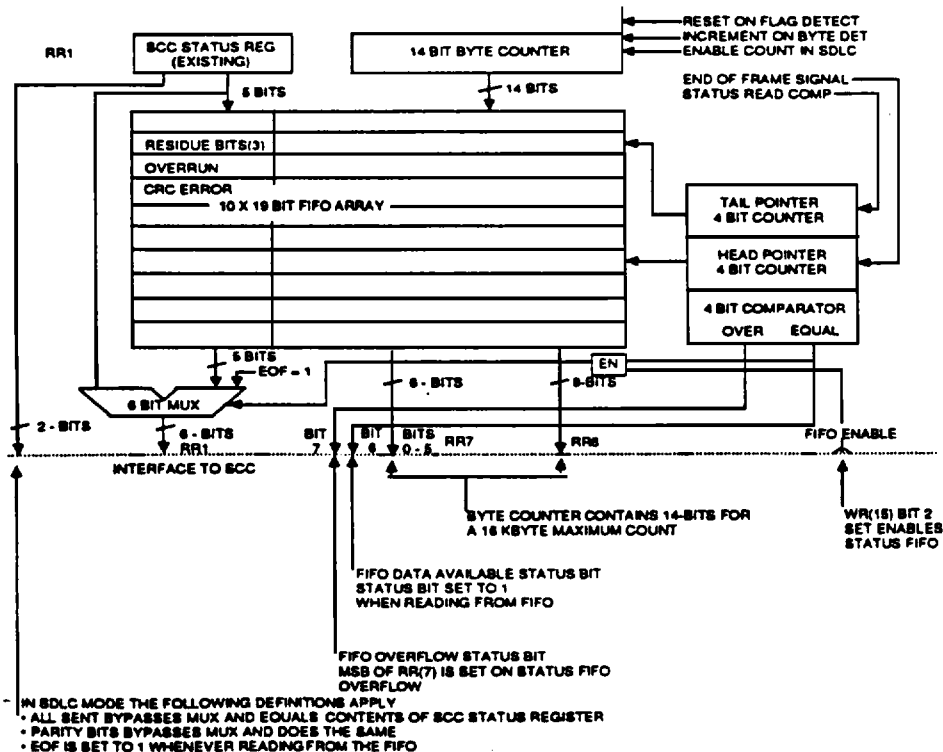

Figure 18. SCC Status Register Modifications.
Additional logic was added to the industry standard NMOS SCC consisting of a 10 deep by 19 bit status FIFO, 14-bit receive byte counter, and control logic as shown in Figure 18. The 10 x 19 bit status FIFO separate from the existing three byte receive data FIFO.
**FIFO Detail.** For a better understanding of details of the FIFO operation, refer to the block diagram contained in Figure 18.
**Byte Counter Detail.** The 14-bit byte counter allows for packets up to 16K bytes to be received. For a better understanding of its operation refer to Figures 18 and 19.